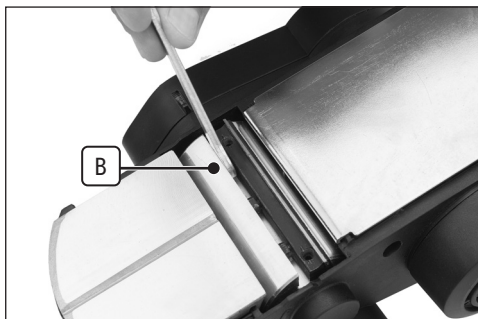
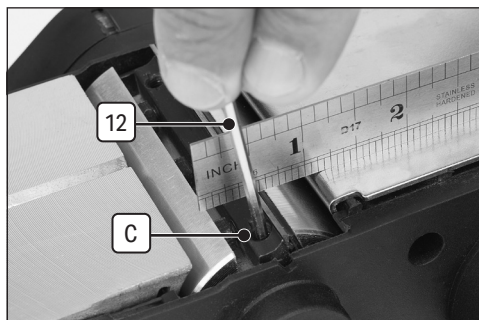

Fig. 6
Fig. 8
8.2 Blade Replacement (Fig.6 – Fig.8)